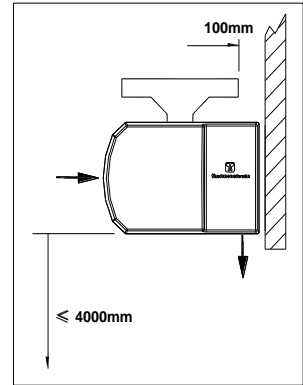
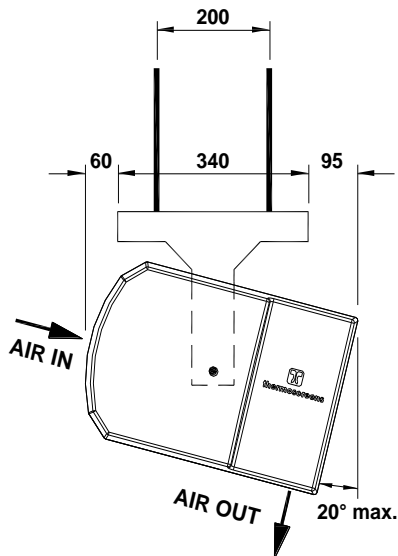

Fig 1
Fig 2a
- at least 100mm clearance above the air curtain, see Fig 1
- with the back edge of the hanging bracket 100mm from the doorway, so the air curtain can swivel, see Fig 1, Figs 2a and 2b.